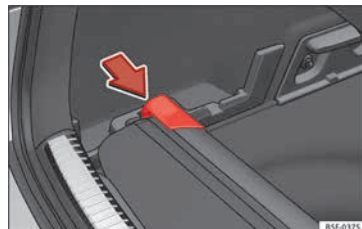

Fig. 165 In the luggage compartment: housing for storing the rear shelf.
- Press the head of the rear shelf in the direction of the arrow until it engages in its housing » **Fig. 165.**